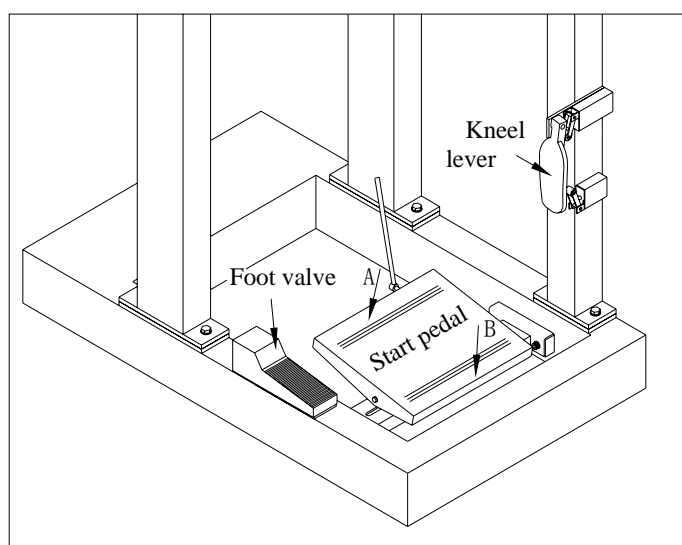

Fig.1
3.3.1 Start pedal (Fig.1)
First of all, switch on the main switch of the machine to check if the rotation of the motor conformable to the red allow on the belt cover. If the direction is opposite, switch in the other way round. Then operate the start pedal in three different movements. **(Fig.1)**